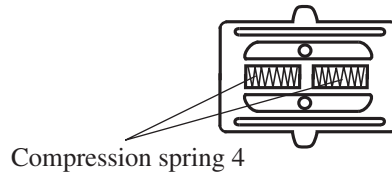

Fig. 4
1) Place two Compression spring 4s into Speed change lever as illustrated in Fig.4.